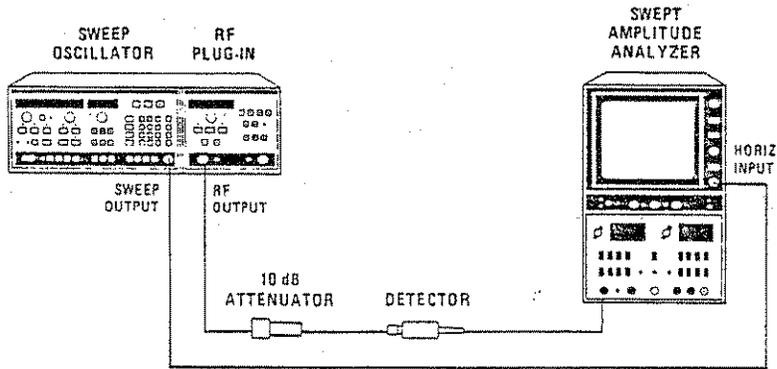

Figure 5-32. Internal Leveling Adjustment Test Setup
1. Connect equipment as shown in Figure 5-32 with the 8755C monitoring the RF output through the 10 dB attenuator. On the 8350A, press [INSTR PRESET] MDD1. Allow the equipment to warm up for 1 hour.